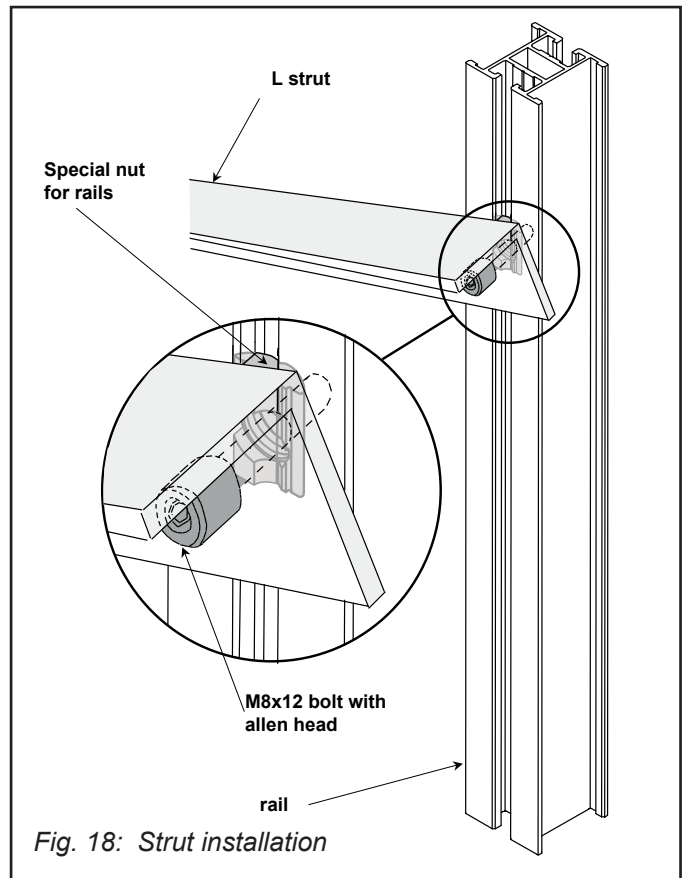

Fig. 18: Strut installation
- Install the strut between the two triangular supports (Fig. 18). Following Fig. 18, insert special M8 nuts into the triangle support rail. Then lay the strut onto the rails and fasten it with M8x12 bolts with washers.